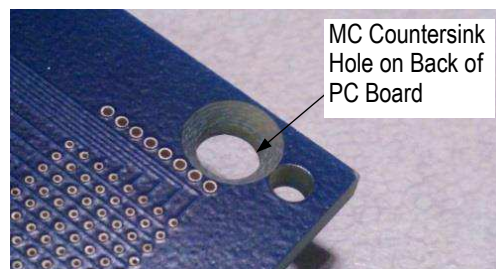

Figure 12
2. Add a countersink for an M3 flat head screw to the jack screw holes on the **non-component side** of both pc boards. See Figure 12.